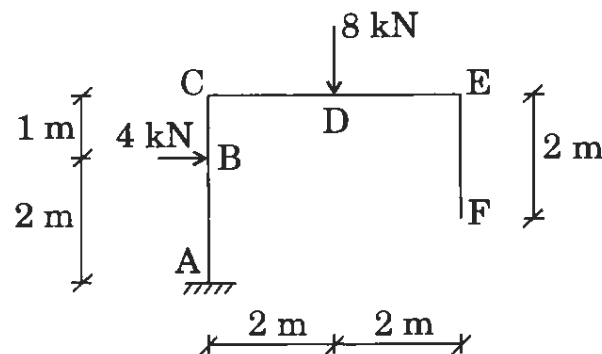

Figure 5
- (c) Determine the horizontal deflection at F for the frame shown in Figure 5. Take $EI = \text{constant}$.